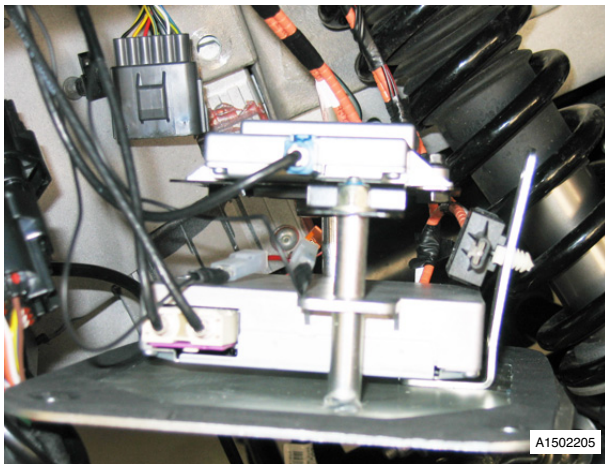

Fig. 33
74. Remove bolts (x4) and earth strap for satellite navigation mounting plate access (tie aside) (see Fig. 33).